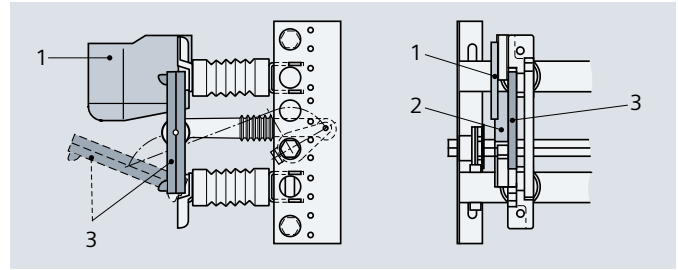

Fig. 4.3-17: 3CJ2 switch-disconnector: (1) flat hard-gas arcing chamber, (2) contact blade, (3) auxiliary blade
3CJ2 switch-disconnectors operate with a flat, hard-gas arcing chamber, (1) in fig. 4.3-17. During the opening movement, the contact blade, (2) in fig. 4.3-17, is separated first. Because the auxiliary blade, (3) in fig. 4.3-17, guided in the arcing chamber is still touching, the current now flows through the auxiliary blade. When the switching blades reach the isolating distance, the auxiliary blade opens the connection suddenly. The opening arc burns in a small gap, and the thermal effect releases enough gas to extinguish the arc rapidly and effectively.